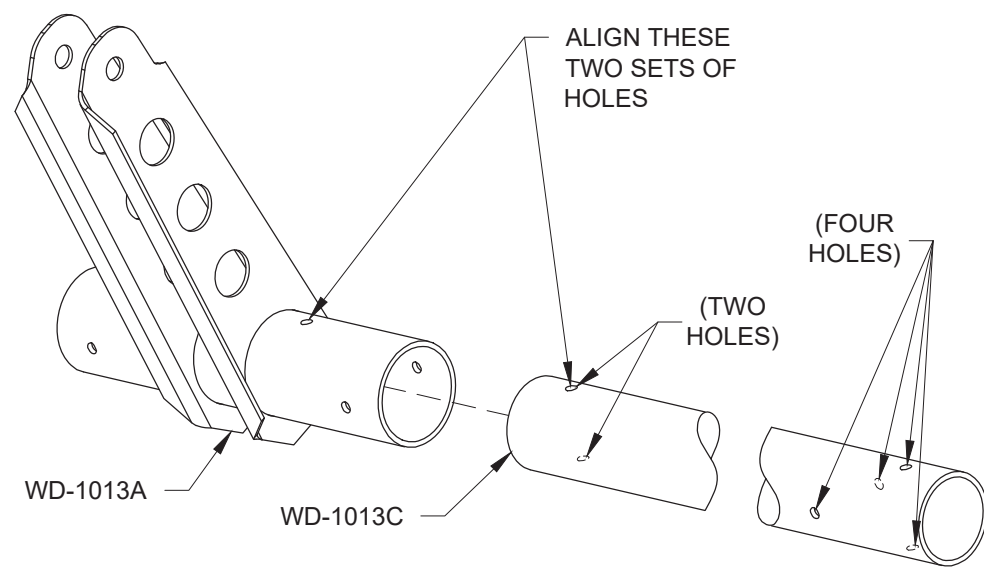

FIGURE 2: ASSEMBLE FLAP CRANK AND FLAP TORQUE TUBE
Step 2: Slide a WD-1013C Flap Torque Tube into the WD-1013A Flap Crank and align them by using the pre-drilled holes as shown in Figure 2.